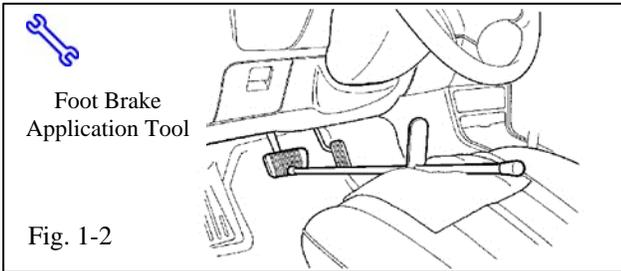

Fig. 1-2
- (e) Add seat protection (blanket) and apply foot brake using foot brake application tool. (Fig. 1-2).